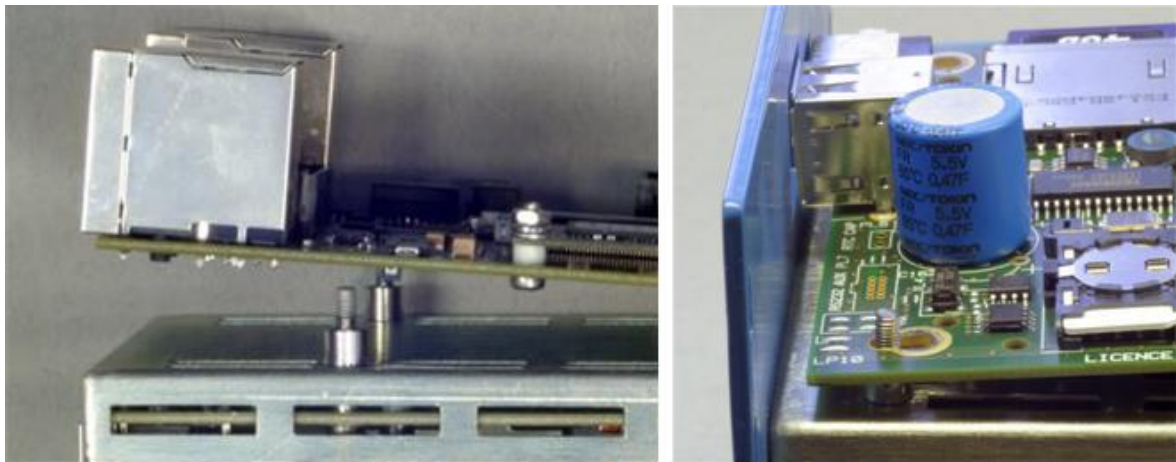

Figure 21 – CPU Removal
3. Lift the **back** of the board clear of the rear mounting studs and slide the board back to clear the front connectors from the front panel then lift the board vertically off the front studs as shown in Figure 21 below.